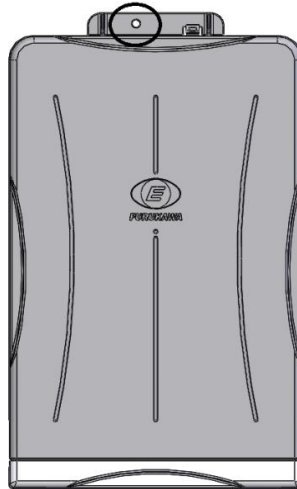

Fig. 43
3.12.2. A padlock can be installed for added security. (Fig. 43)